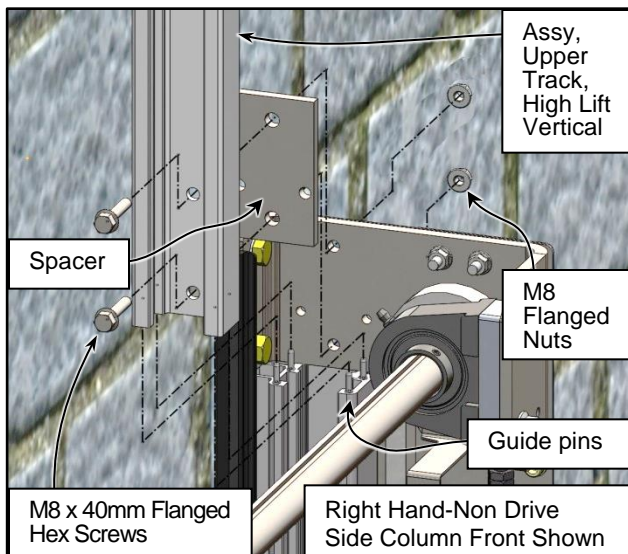
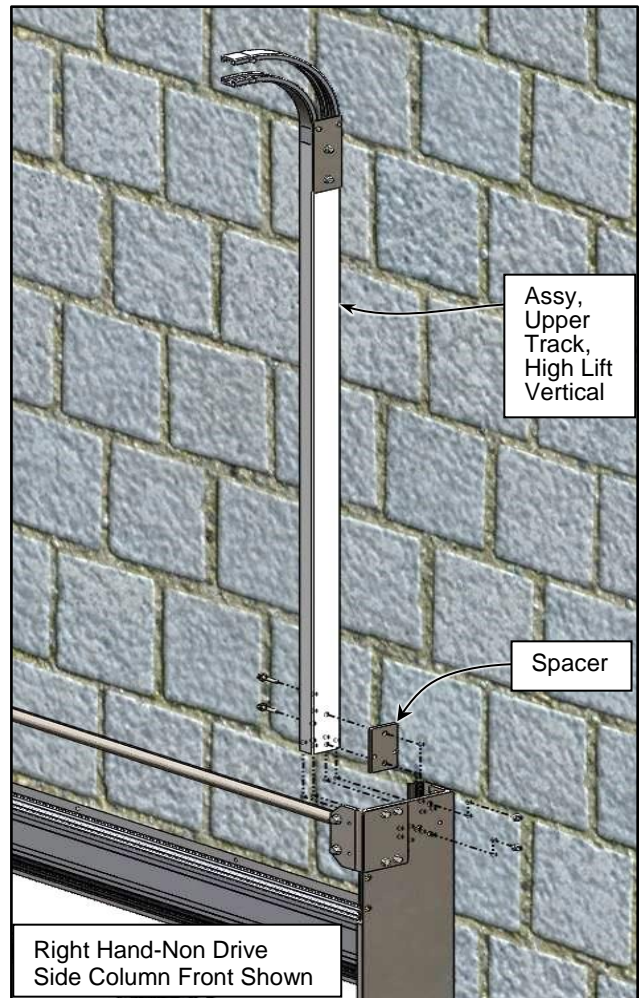

Figure 65
Figure 66
1. Identify, locate, and orient the High Lift Upper Track Vertical Assembly for each side. This includes the upper track transition bracket, 90° upper inner and outer transition tracks, vertical section track, spacer, locating pins, and fasteners. Install on both side column assemblies as shown. Shim the transition bracket to the wall as necessary. (See Figure 65 & Figure 66)
2. Confirm that guide pins are installed in the guide rail. (See Figure 65)